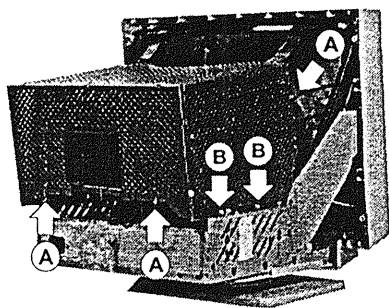

Figure 2-3 Remove the Shield (light side)
3. Disconnect the three ground wires from the shield. Refer to the figure 2-3 (A).
4. Remove the two screws from the shield. Refer to the figure 2-3 (B).